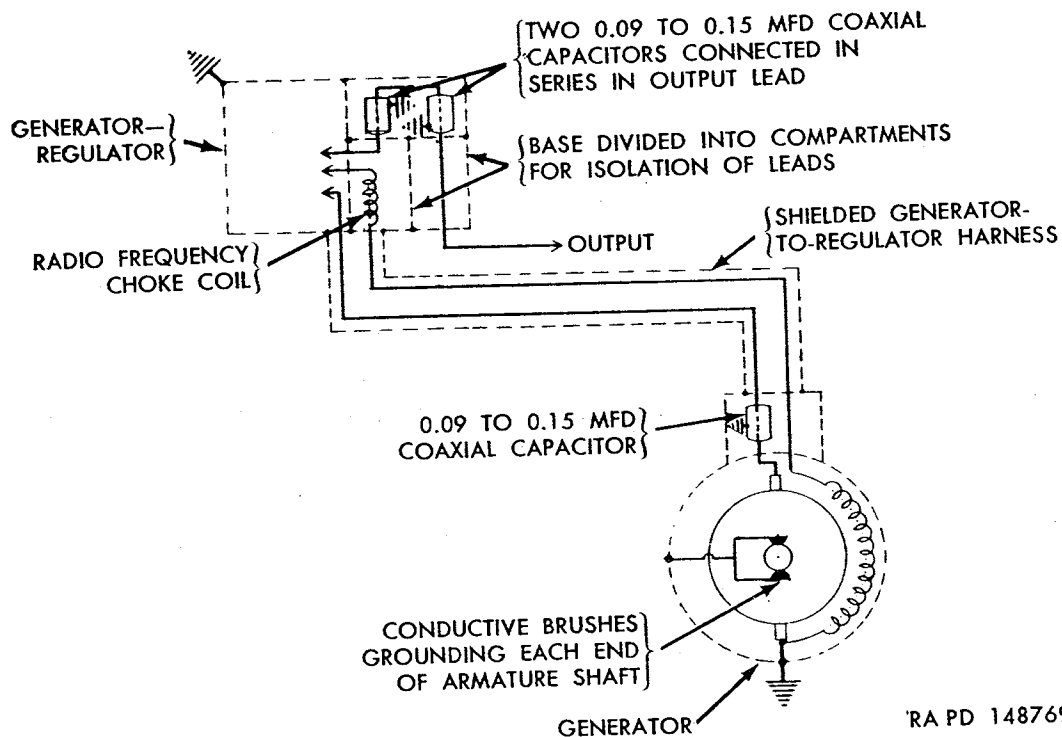

Figure 181. Schematic circuit diagram of generating system radio suppression units.
a. Description and Data (fig. 181). A 0.09 to 0.15 mfd coaxial capacitor is connected into the generator output cable; capacitor is installed in the generator harness connector elbow and grounded to the elbow. Conductive brushes are installed in the generator, grounding each end of the armature shaft. Wiring harness leading from generator to generator-regulator is shielded with metallic braid molded into the harness insulation. Two 0.09 to 0.15 mfd coaxial capacitors are connected in series in the generator-regulator output cable and are grounded to the regulator base. A radio frequency choke coil is connected into the field circuit in the generator-regulator. Regulator base is divided into compartments for isolation of the leads.